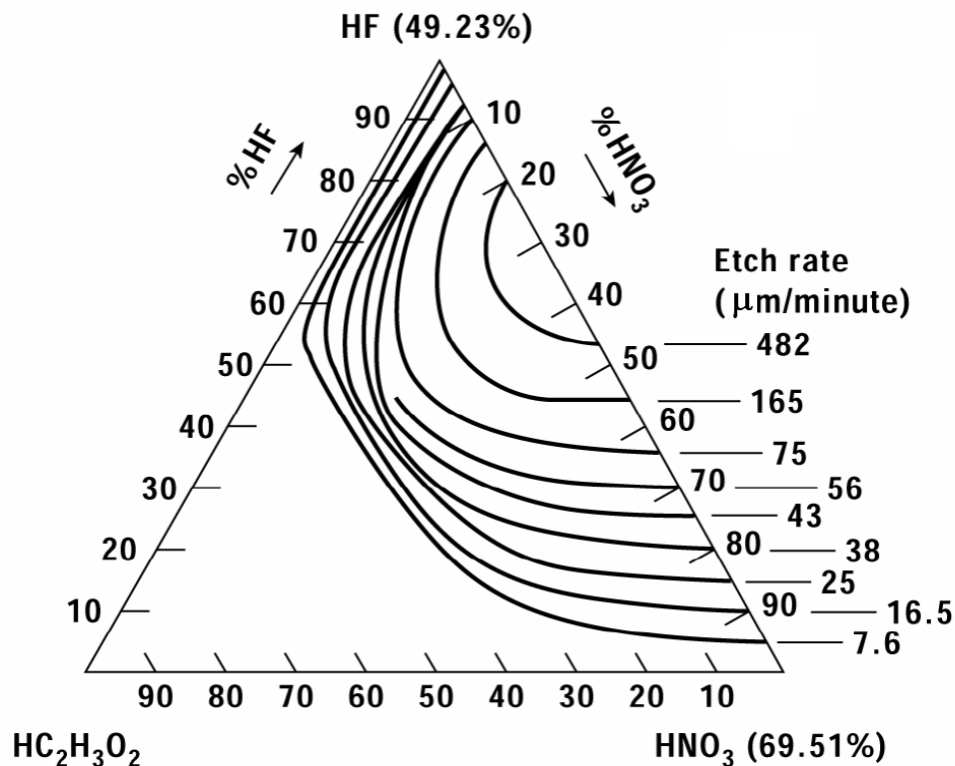

Figure 1
1. [a] A hydrofluoric-nitric acid (HNA) etchant solution consisting of two parts of 69.51% HNO_3 , five parts of 49.23% HF, and three parts of $\text{HC}_2\text{H}_3\text{O}_2$ is used to etch silicon. If the solution is held at room temperature, what would be the expected etching rate? Refer to Figure 1 of the etch rate for silicon in HNA solution.